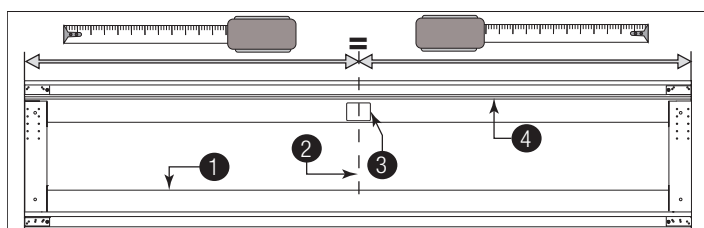
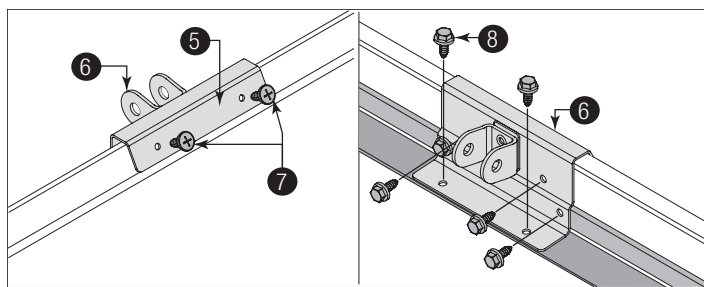

Figure 21
Figure 22, Top Section and Drawbar Operator Bracket
**IMPORTANT:** When securing the asymmetrical strut 3 to the top section, it is recommended not to install any fasteners into the short leg 1 of the asymmetrical strut. See Figure 21 for correct orientation.
See Figure 21 and Figure 22 for the following steps.